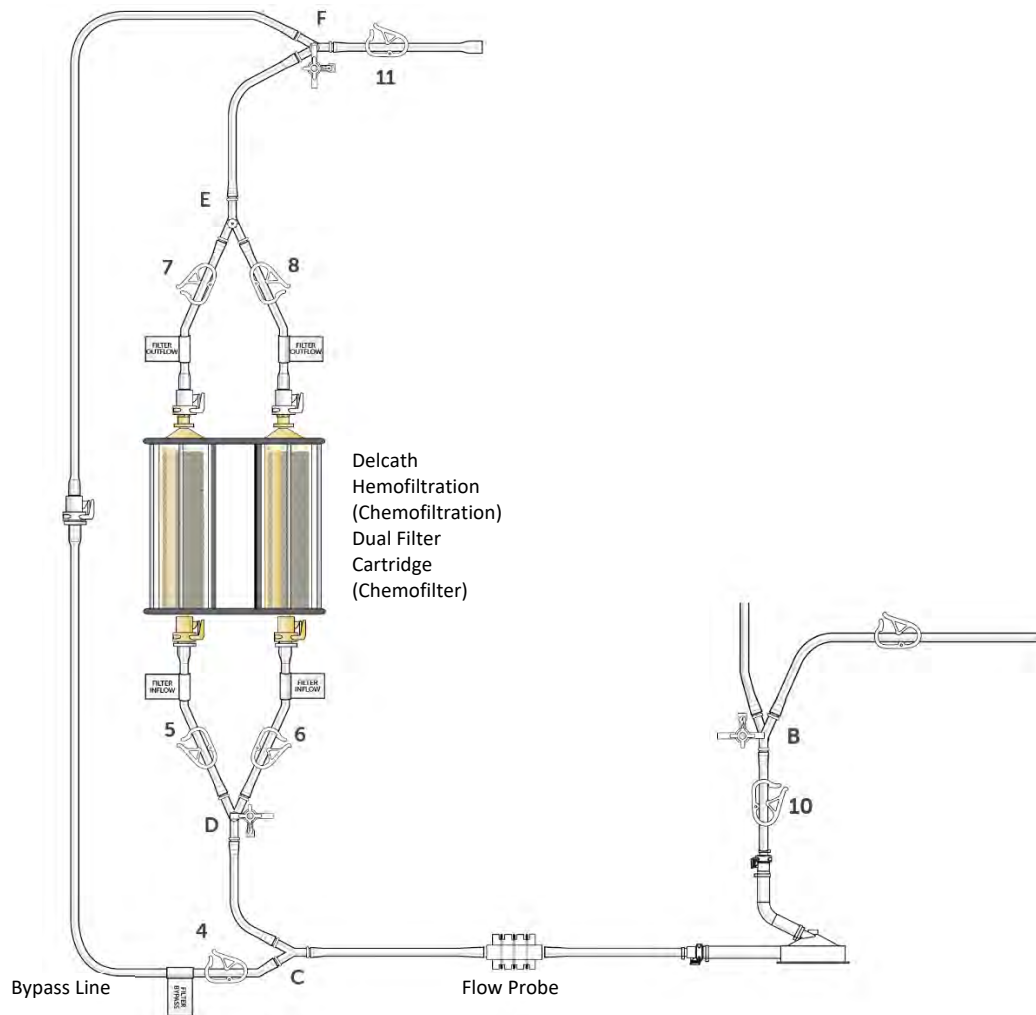

Figure 11
- (j) Attach the supplied stopcocks to the "B" (pre-pump), "D" (pre-filter) and "F" (outlet) Y-connector ports. Verify "Bypass Line" clamp 4 is open, as shown in Figure 11.